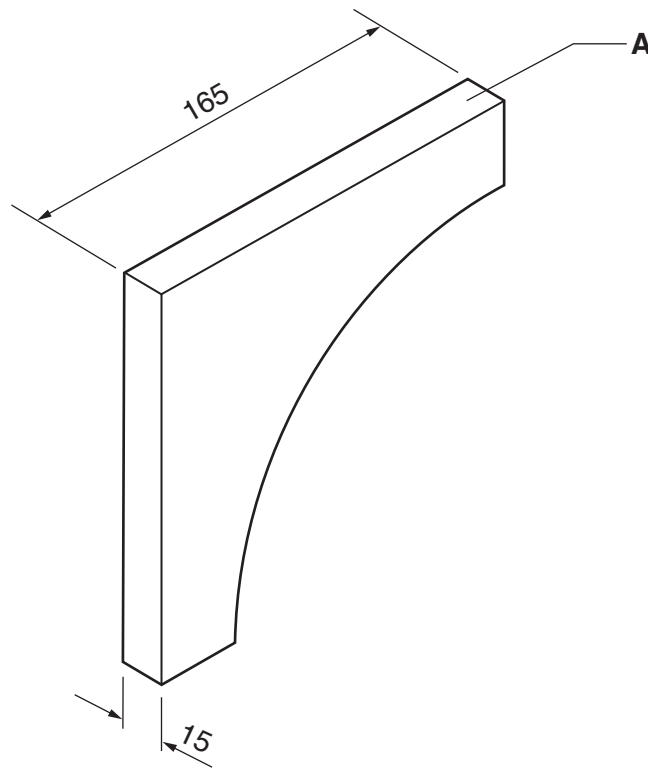

Fig. 13
Fig. 13 shows one end of the shelf unit ready for the positions of dowels to be marked out.
- (i) Draw accurately on end **A** shown in Fig. 13 the positions for **two** dowels. Show clearly **all** dimensions. [3]
- (iv) A batch of twenty identical shelf units will be made in a school workshop. Use sketches and notes to show a design for a drilling jig that could be used when drilling the holes for the dowels in the ends of the shelf unit shown in Fig. 13.